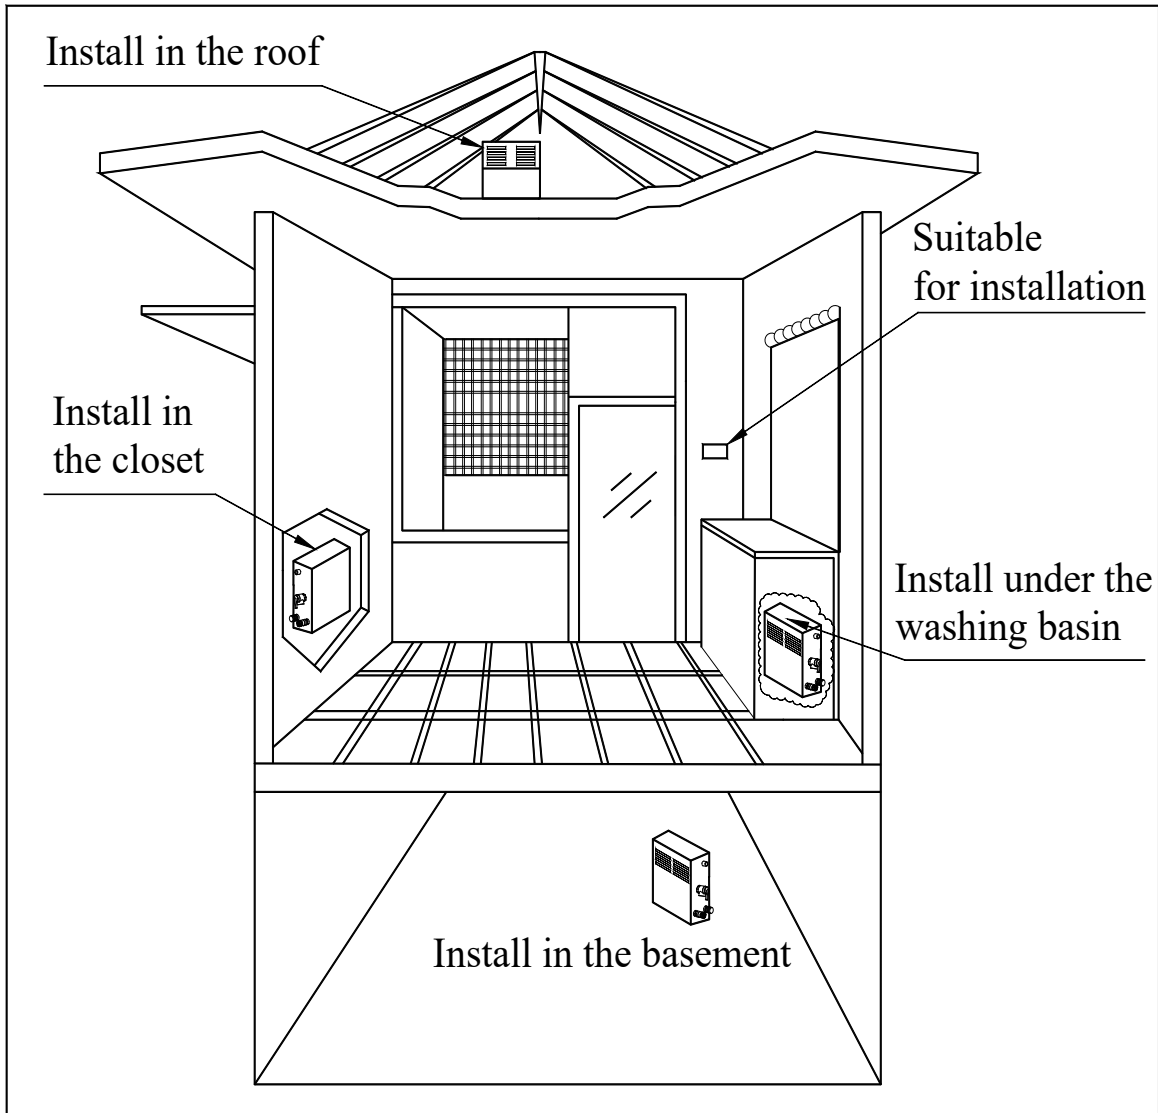

Figure 5 Places to install steam generator
- The Generator can be installed either on the wall or on the ground but must be well fixed. Install the generator as close as possible to the steam room. Examples as shown in Figure 5 (Always take note of ventilation)